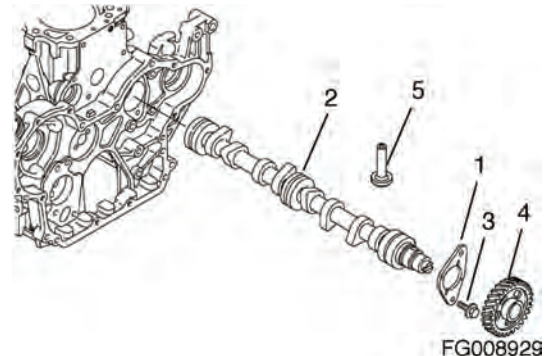

Figure 175
2. Remove the two bolts (3, Figure 175) retaining the camshaft thrust plate (1, Figure 175).
3. Rotate the engine in the engine stand so that gravity causes the tappets (5, Figure 175) to drop away from the camshaft lobes.
4. Slowly pull the camshaft (2, Figure 175) assembly out of the engine being careful not to damage the front camshaft bushing.
6. Remove the camshaft drive gear (4, Figure 175) only if the gear or camshaft require replacement. Use a knife-edge puller and a press to remove the gear. The gear is a shrink-fit and will need to be heated to 356° - 392°F (180° - 200°C) to remove.